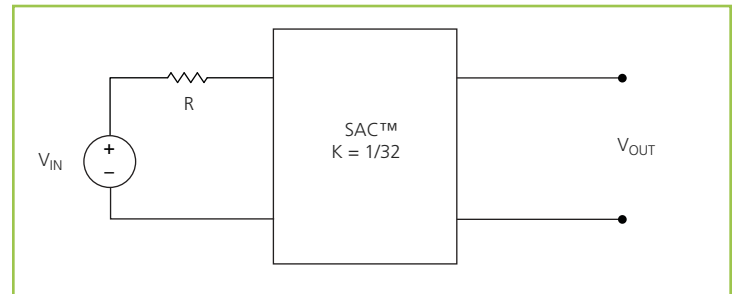

Figure 15 — K = 1/32 Sine Amplitude Converter™ with series input resistor
The use of DC voltage transformation provides additional interesting attributes. Assuming that R_{OUT} = 0 Ω and I_Q = 0 A, Eq. (3) now becomes Eq. (1) and is essentially load independent, resistor R is now placed in series with V_{IN} as shown in Figure 15.
Assuming that $R = 1 \Omega$, the effective R as seen from the secondary side is 0.98 mΩ, with $K = 1/32$ as shown in Figure 15.